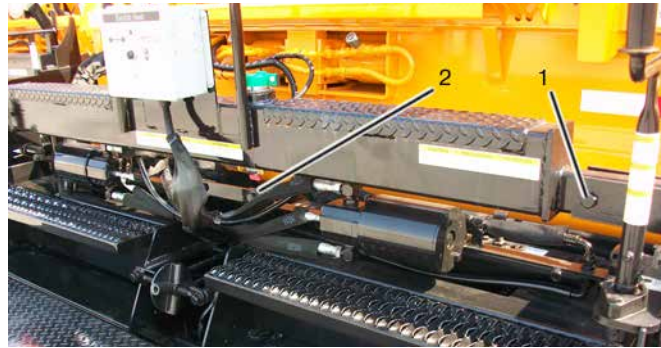

Figure 4-39. Lock Down Bolts
1. Loosen lock down bolts (Figure 4-39,1,2) in slotted bars before adjusting crown and valley mechanism.